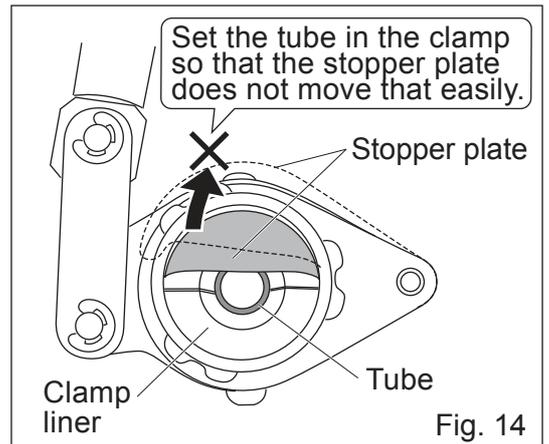

Fig. 14
- To confirm that the stopper plate is in perfect contact with the tube, try to raise the stopper plate slightly with your finger. If the stopper plate is easy to shift, it implies that there is a space between the stopper plate and the tube, so reset the tube. (Fig. 14)